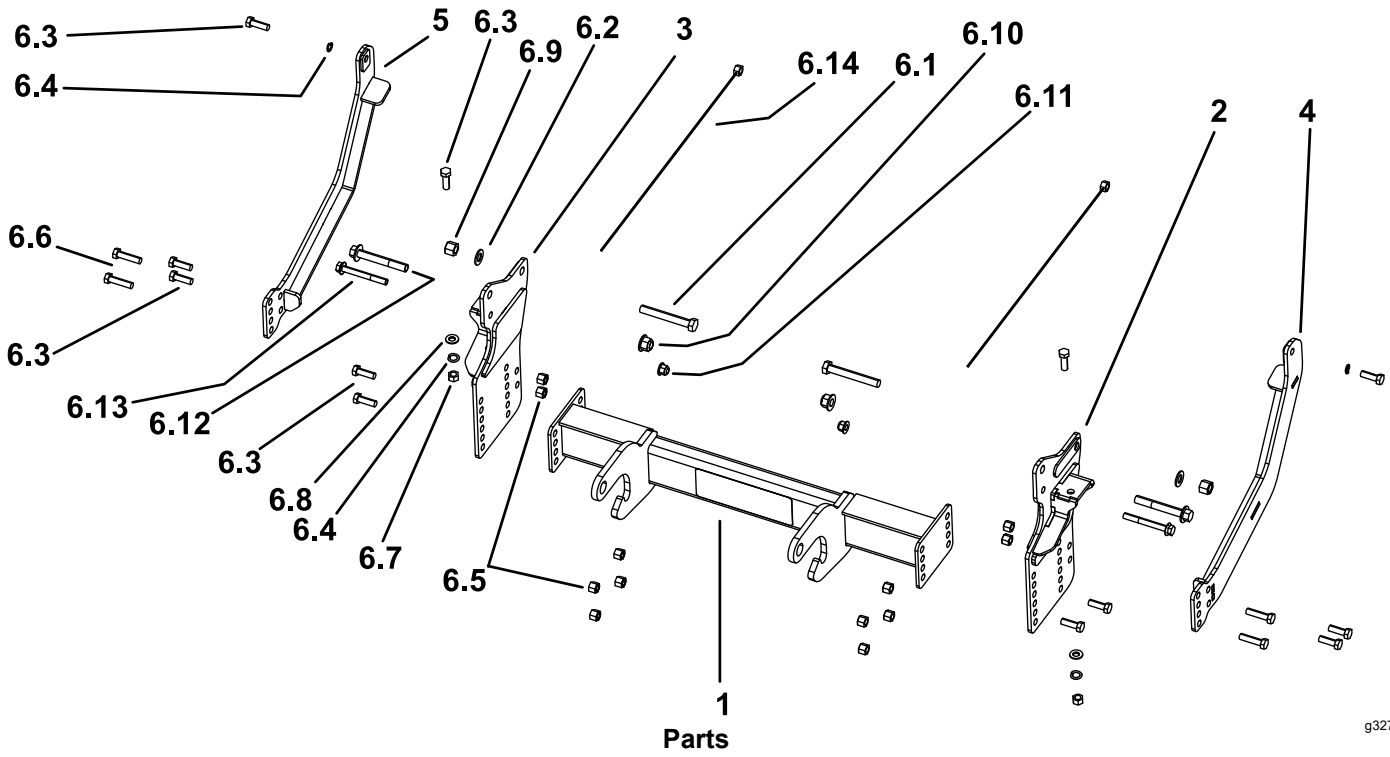

**Figure 6**
10. Loosely secure the pushbeam to the sideplate using 4 bolts (1/2 x 1-1/2 inches) and nylon locknuts (Figure 6).
11. Loosely secure the pushbeam to the angle bracket and sideplates using 4 bolts (1/2 x 2 inches) and nylon locknuts (Figure 6).